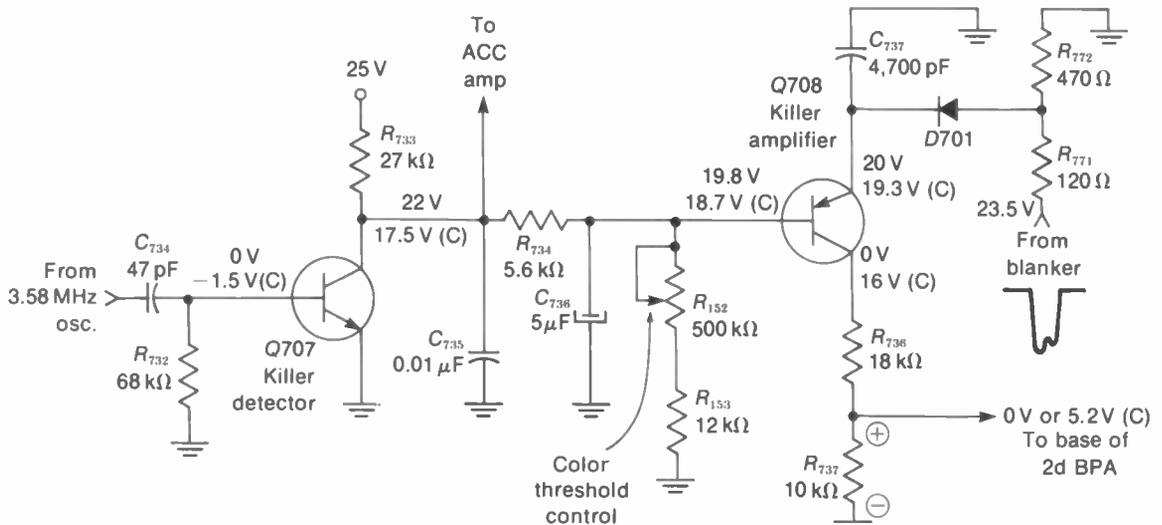
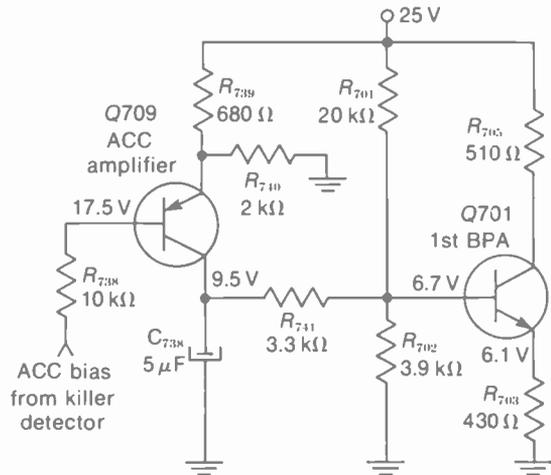

FIGURE 18-2 COLOR KILLER CIRCUIT. VOLTAGES MARKED (C) ARE WITH COLOR SIGNAL. ACC CIRCUIT IN FIG. 18-3. (FROM ADMIRAL CHASSIS 2K20)
FIGURE 18-3 ACC CIRCUIT FOR THE RECEIVER IN FIG. 18-2.
In Fig. 18-2, the signal from the 3.58-MHz oscillator is coupled to the base of the killer detec-
In Fig. 18-2, the base voltage on the killer amplifier Q708 is set by the variable resistance  $R_{152}$ . This is the color threshold or *color killer control*.
In Fig. 18-3, the amplitude of the chroma signal is controlled by using automatic bias from the ACC amplifier to vary the gain of the first bandpass amplifier. Q709 is a dc amplifier for the ACC bias. Its input is dc voltage from the collector of the killer detector Q707, shown in Fig. 18-2. Remember that this collector voltage varies with the amount of oscillator signal, which in turn depends on burst amplitude. More signal causes more conduction in Q707, reducing the collector voltage. Then the input to the base of Q709, through  $R_{739}$ , goes less positive.
6. Referring to Figs. 18-2 and 18-3, give the specific functions for Q707, Q708, Q709, and Q701.